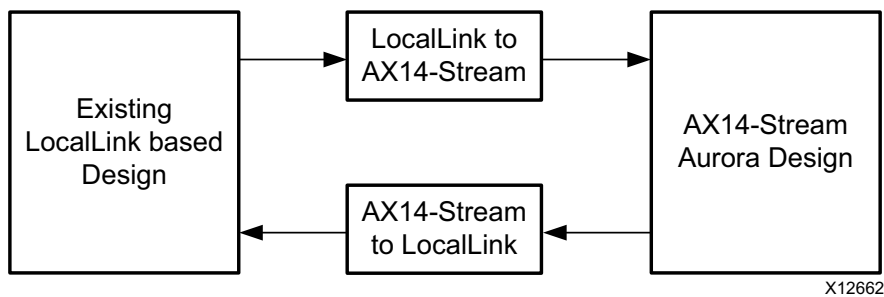

Figure B-4: AXI4-Stream Aurora 64B/66B Example Design
Figure B-4 shows an example Aurora 64B/66B design using the AXI4-Stream interface.
2. See Figure B-4 for the emulation of a LL Aurora 64B/66B core from a AXI4-Stream Aurora 64B/66B core.
5. Connect the shim and AXI4-Stream Aurora 64B/66B design as shown in Figure B-4.